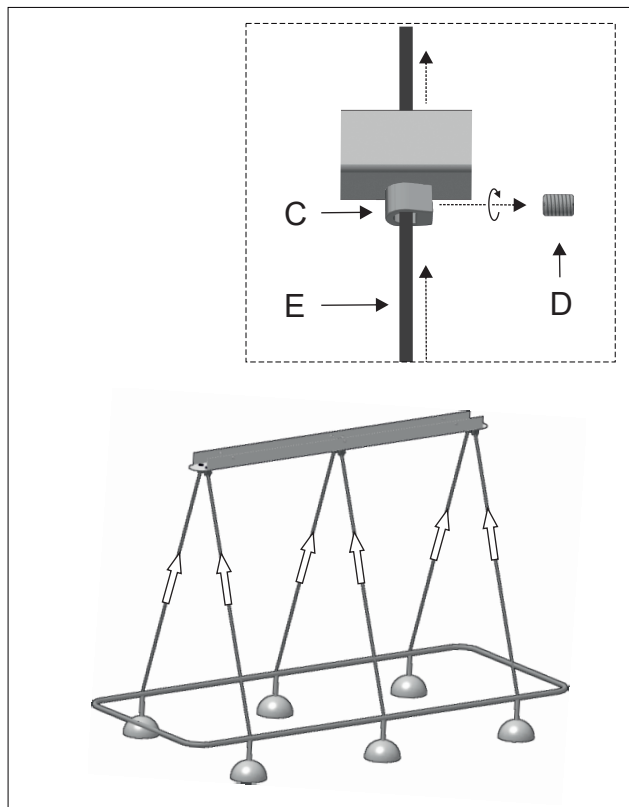

Figure 2
2 - Release the cable holder screw (D) to run the power cables (E) through the central hole. Adjust the height of the lamp and tighten back the screw. Make sure the cable is secured. Repeat the action for each pendant. Figure 2